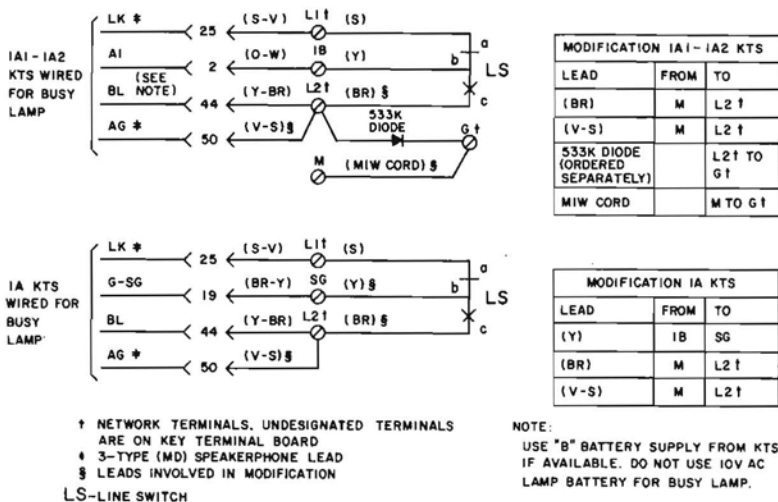

Fig. 3—Station Busy Lamp Circuit with 3-Type (MD) Speakerphone
2.03 When used with 1A KTS, modify set as shown in Fig. 3.